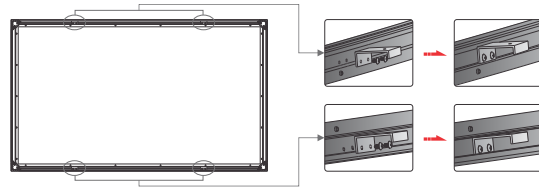

Figure 8
- Each screen is equipped with 4 brackets labelled 1,2,3,4; and thus the concave frame has relevant marks of 1, 2, 3, 4. When installing the brackets, use the $\phi 5 \times 10$ mm screws to fix the bracket 1 to mark 1 on the concave frame. Do the same for bracket 2, 3 and 4. (Figure 8). Make sure the screws are tightly fastened.